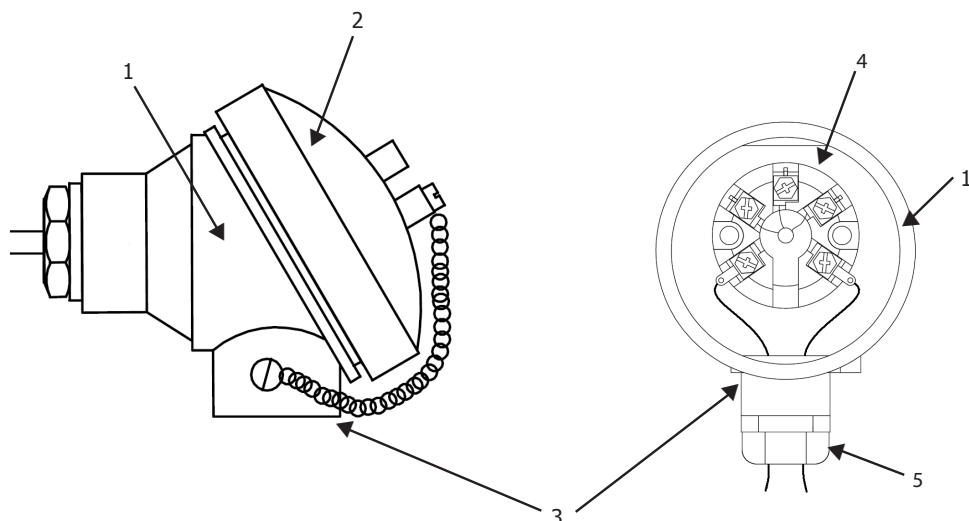

Figure 19 Temperature Transmitter Housing
- a. Cable connection to the temperature transmitter is made via the terminal block (4) accessed by removing the terminal housing lid (2) (Figure 19).